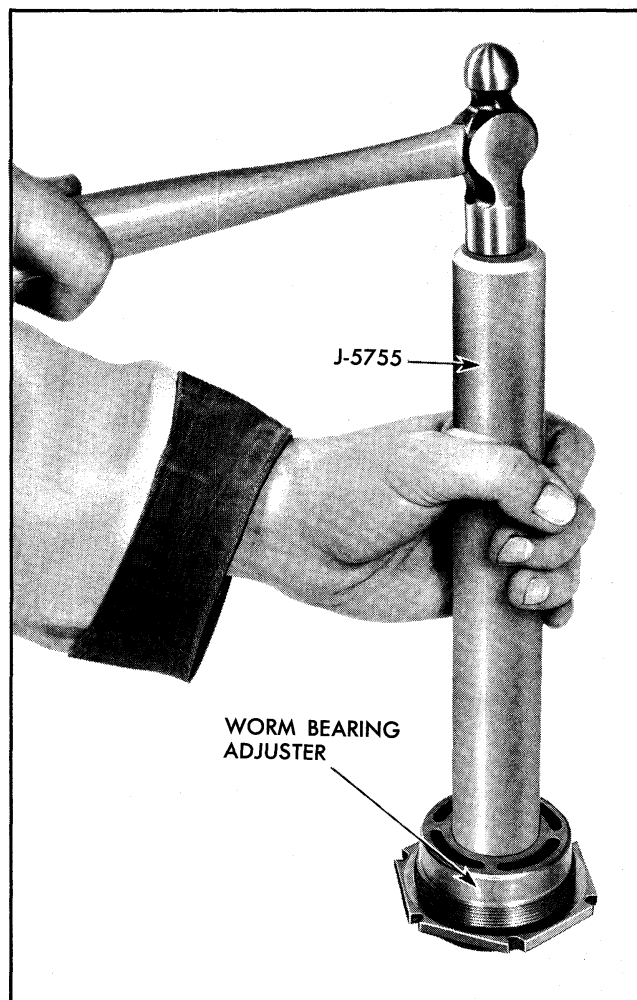

Fig. 9-24 Replacing Bearing Cup
2. Install bearing cup in worm bearing adjuster (Fig. 9-24) using tool J-5755.